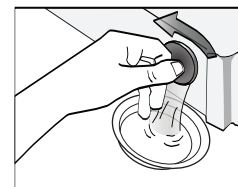

Fig 11
- Remove the remaining water in drain pump (Fig 11).